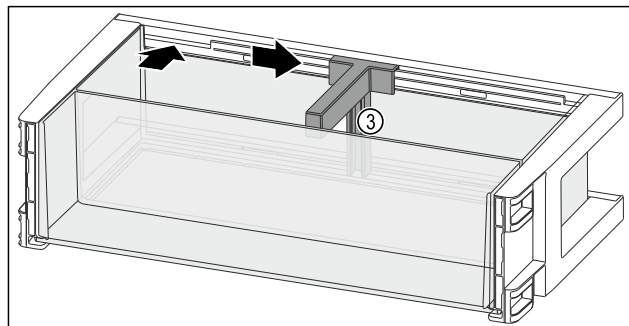

Fig. 147
- Insert the bottle holder Fig. 147 (3) into the recess.
- Push the bottle holder Fig. 147 (3) to the side into the desired position.